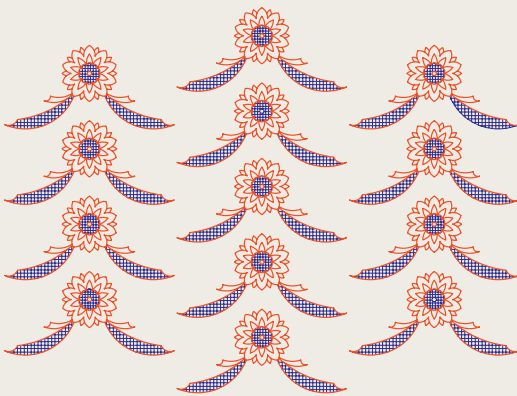

Fig. 10.25 Exercise 1 – original pattern
1. Fig. 10.25 shows a pattern formed by inserting an **external reference** and then copying or arraying the **external reference**.